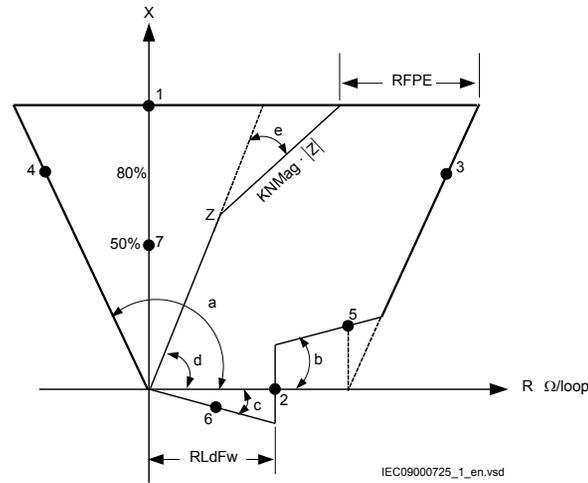

Figure 10: Distance protection characteristic with test points for phase-to-ground measurements
Table 3 is used in conjunction with figure 10.
4. Repeat steps 1 to 3 to find the operating value for the phase-to-ground fault C-E according to figure 10 and table 3
3. Repeat steps 1 to 2 to find the operating time for the phase-to-ground fault according to test point 7 in figure 10 and table 3. Compare the result of the measurement with the setting *tIPE*.